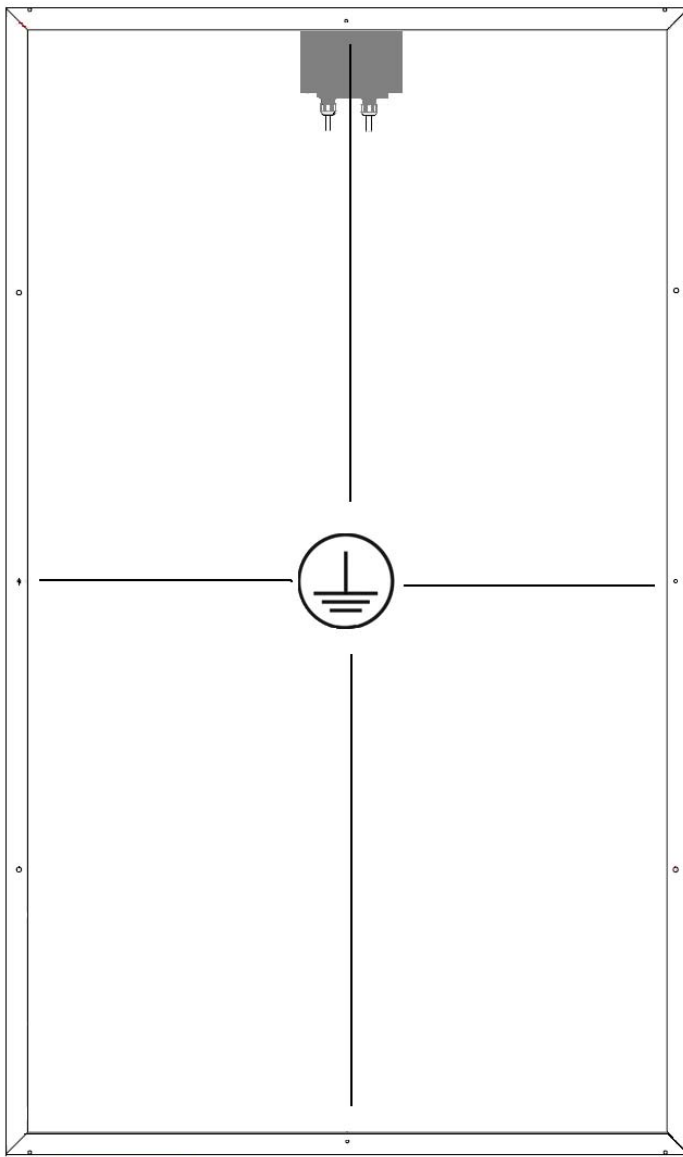

Figure 2 Manufacturer 01 c- Si M60
- Earthing holes: see figures 2 to 6.